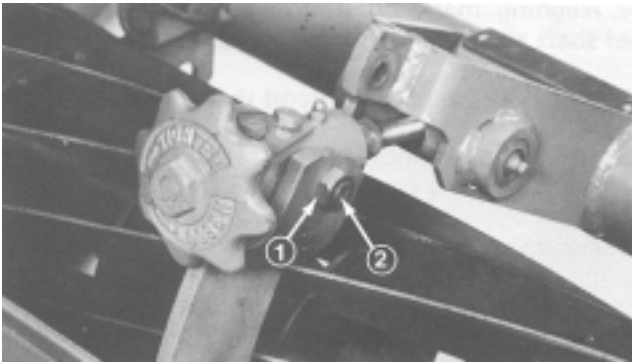

Figure 30
17. Loosen locknuts allowing removal of Allen head set screws securing bedbar to bedbar retainer (Fig. 30).